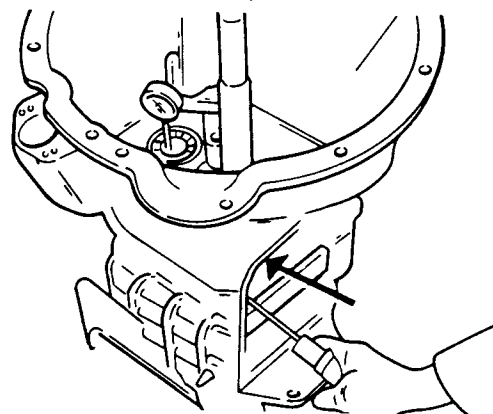

Fig H1.41
- (5) Refer to Fig H1.41. Use a screwdriver to lever the constant gear of the layshaft (1) sliding this upwards and downwards to measure the end play on the dial gauge.